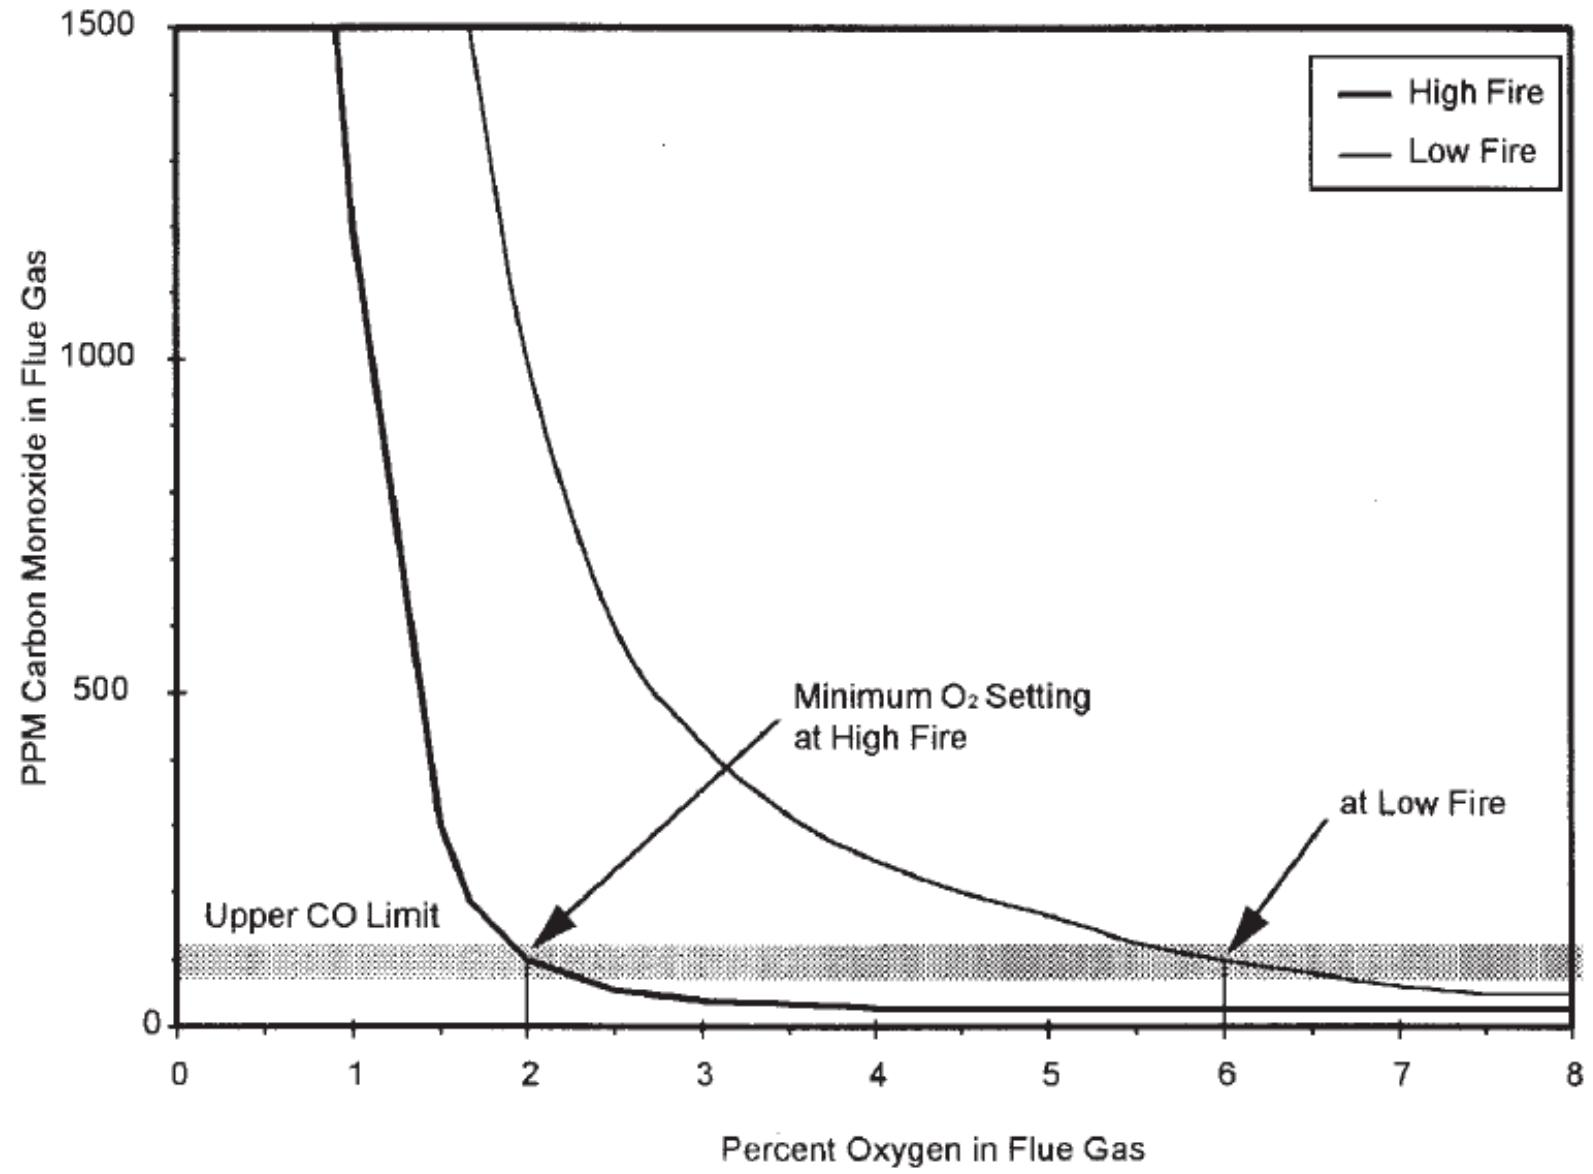

Figure 5.2 Hypothetical CO-O₂ characteristic curve for a gas-fired industrial boiler.
- To identify the point of minimum excess-air operation for a particular fired system, curves of combustibles as a function of excess O₂ should be constructed similar to that illustrated in Figure 5.2.